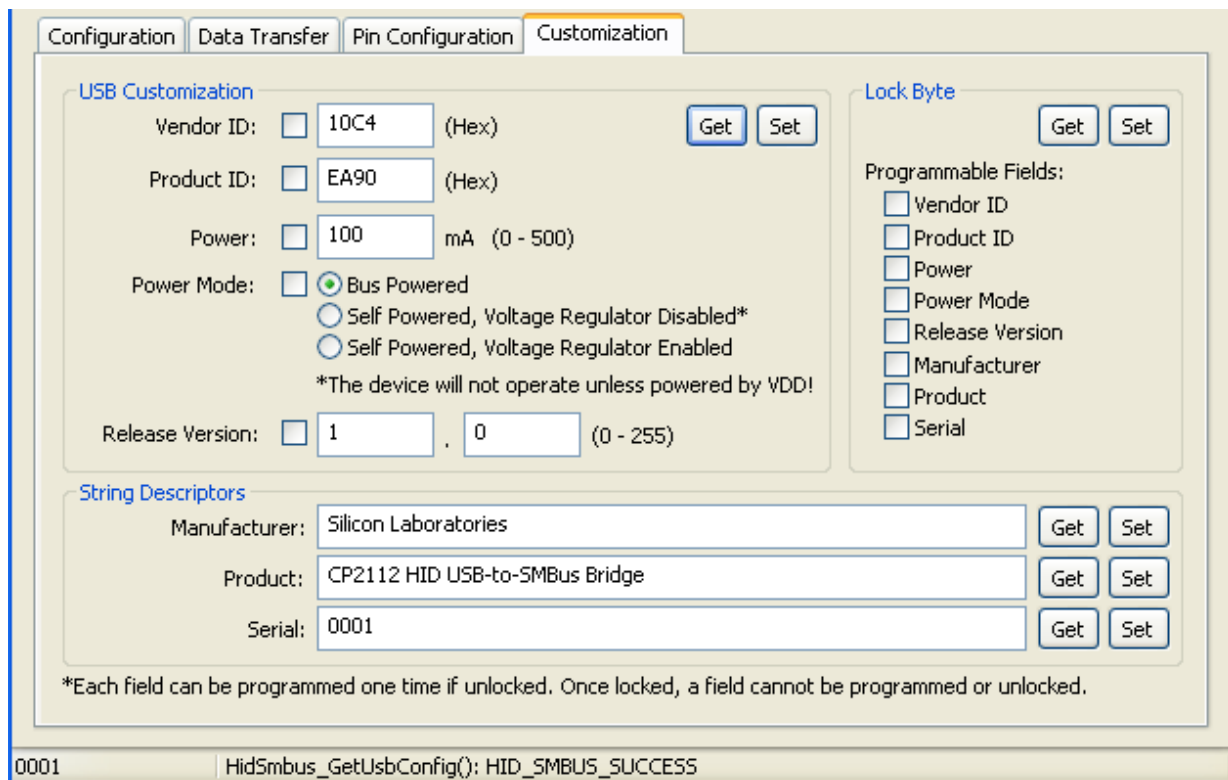

Figure 5. Customization Tab
11. Figure 5 shows the Customization tab, which allows you to program the One-Time-Programmable (OTP) parameters of the device. The parameters that are programmed with this tab can only be programmed once and cannot be changed back to their default values after being programmed. This tab has the same functionality as the CP2112SetIDs application in the software in “AN144: CP210x/CP211x Device Customization Guide”. In order for these parameters to be successfully programmed, there must be a 4.7 μ F capacitor connected between the VPP pin and ground. The CP2112-EK board has this capacitor. See “6. Schematic” on page 8 for more details on the evaluation board schematic.